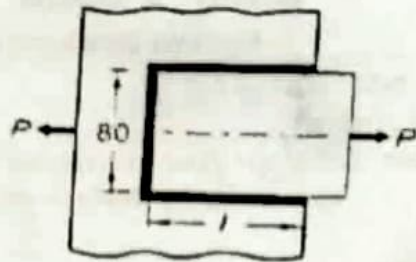

Figure 2
- Q7 A steel plate, 80 mm wide and 10 mm thick, is joined to another steel plate by means of a single transverse and double parallel fillet weld, as shown in Figure 2. The strength of the welded joint should be equal to the strength of the plate to be joined. The permissible tensile and shear stresses for the weld material and plates are 100 MPa and 70 MPa respectively. Find the length of each parallel fillet weld. Assume that the tensile force passes through the center of gravity of three welds. (15)